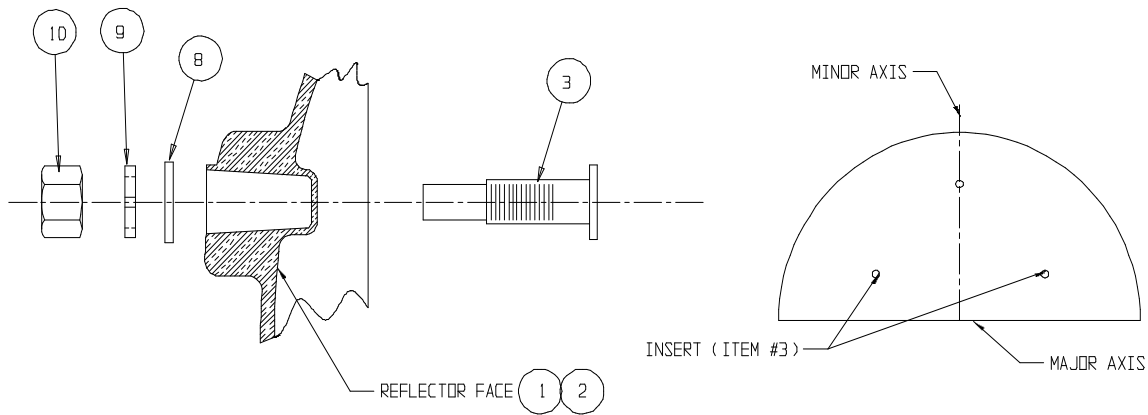

Figure 2.2-1
**Step 1:** Place three of the threaded inserts (item 3) through the face of each reflector petal (item 1 & 2) and secure with 3/4” flat washer, lock washer, and hex nut. (items 8,9, & 10). Snug, but do not completely tighten at this time. See figure 2.2-1.